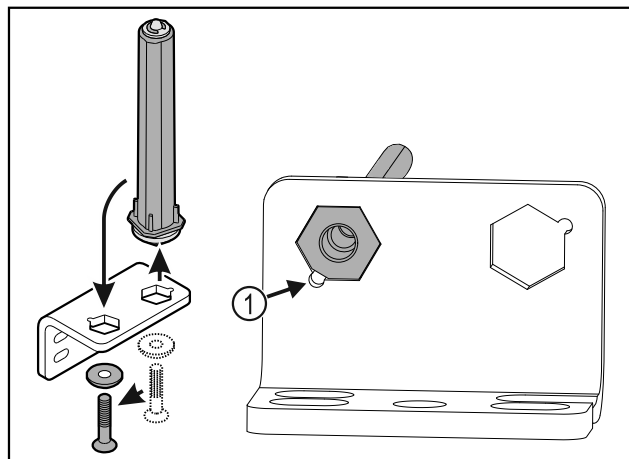

Fig. 31
- Make sure the pin chamfer Fig. 31 (1) faces the round hole when you put it in.